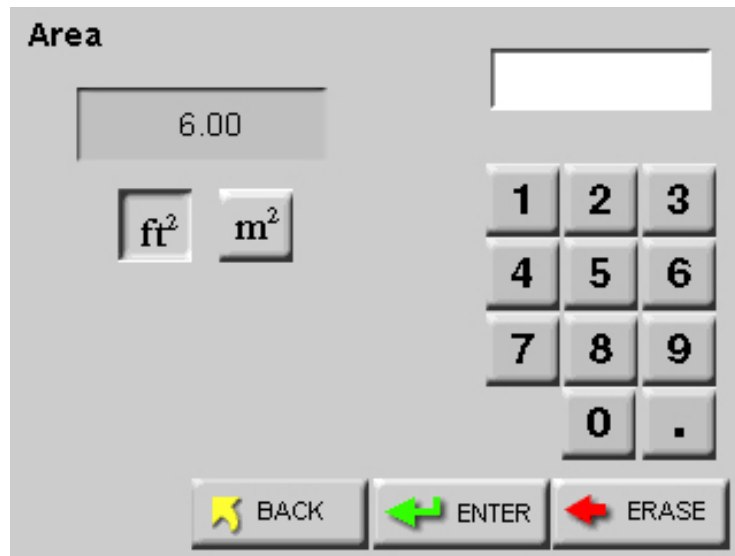

Figure 4-70 Reports Area Setup Screen
- Press the AREA button to display screen shown in Figure 4-70.